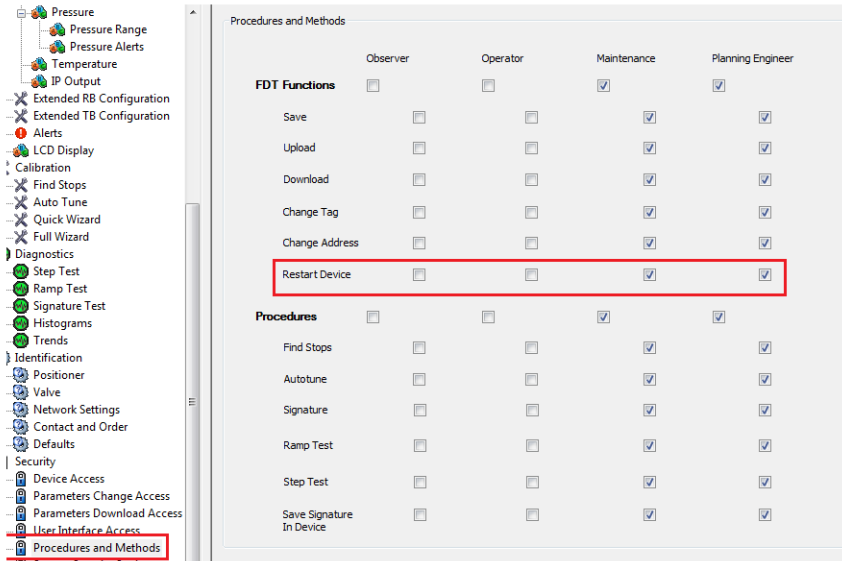

Figure 173 – Procedures and Methods
3. Select **Security > Procedures and Methods** and Figure 173 appears.